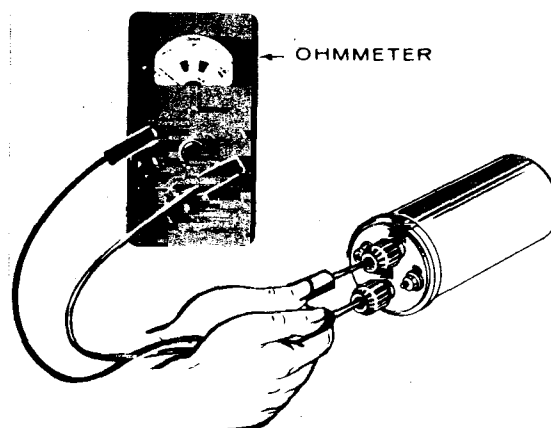

FIGURE 5. COIL TEST
3. Change resistance setting on ohmmeter. Place ohmmeter leads inside on spark plug cable holes (Figure 5). Secondary resistance should read between 12,600-15,400 ohms for breaker point ignition coils, and between 14,500-19,800 ohms for electronic ignition coils.